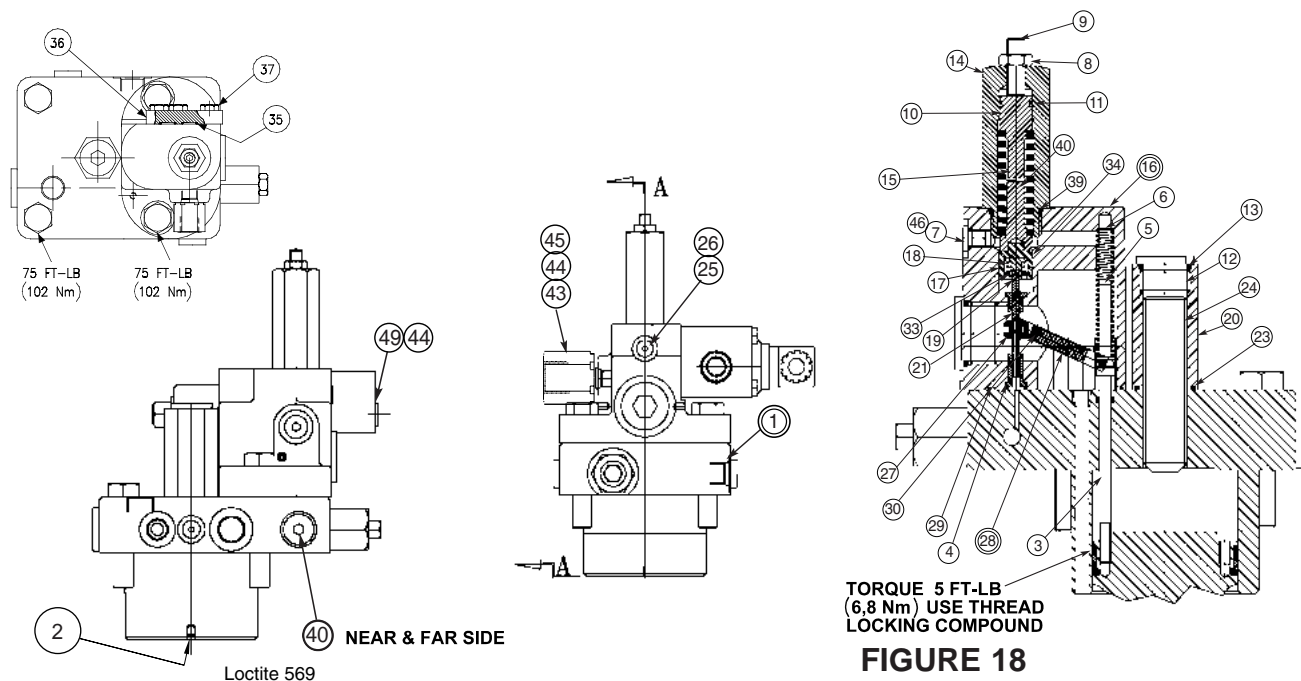

FIGURE 18
1. See Figure 18. Remove 3 screws (37) holding block (36) to body (16).
2. Remove 2 screws holding body (16) to cap assembly (1).
3. Remove all parts from body (16) except pin (30) and arm assembly (28). It is not necessary to remove these parts unless broken or worn. Examine parts for wear or damage.
4. Remove screw (3). Examine head for excessive wear, and body for smooth sealing surface with O-ring.
2. Install spool (4) into bore as shown. Install spring (8) over end of spool.
3. Install plug with stop (14) and O-ring (13) into plug (3).
4. Install O-rings (7) and (16) on plug (3). Install plugs (3) and (9) into body (1).
5. Install orifices (20) and (21) and plugs (10). Torque plugs. Install O-ring (5) in cap.
8. See Figure 18. Apply thread locking compound on threads of screw (3), lubricate the shank, thread through the cap into the control piston, and torque to 5 lb. ft. (6.78 N m).
9. Install minimum stop screw (24) and turn clockwise to stroke pump to full volume. Measure height from control cap to top of screw (3). With control piston at full stroke, dimension must be $.67 \pm .03$ in. (16,9 \pm 0.76 mm). Back out minimum stop screw (24) till there is no contact with control piston.
10. Press dowel (30) into body (16), through the link (28), to $1/4$ " (6.35 mm) below surface, apply hydraulic sealant to threads of screws (46) and install over dowel (30).
11. Press spool (21) into retainer (19). Caution: do not use excessive force. Place spool/retainer assembly into spool (17) with spring (18) and washer (34). Secure with retaining ring (33).
12. While sleeve (27) is engaged into dowel on link (28), slide above spool assembly into bore of body (16), and through sleeve (27). Spool (21) must move freely and easily at all positions of the link (28).
13. Install proportional valve (41) in block. Torque to 20 ft. lbs. (27 N m).
14. Install coil (42) on proportional valve. Torque to 20-25 in. lbs. (2.2-2.8 N m) max.
15. Assemble all other components into body (16) per above drawing. Torque the plug (12).
16. While spring retainer is engaging clevis pin (5) under dowel of link (28), slide the other opening of spring retainer over the top of the screw (3). Attach body assembly (16) to cap (1) with two screws, and torque to 75 lb. ft. (102 N m).
PARTS LIST FOR FIGURE 18